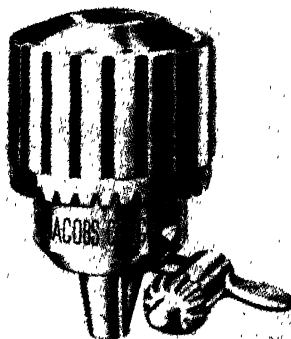

Fig. 8-6. A Jacobs drill chuck (*The Jacobs Manufacturing Company*)
The cutting tools used for any of the drill-press operations (except tapping) may be made either with straight shanks or taper shanks (Morse standard). It is usually considered best to have the smaller sizes of drills (drills under  $\frac{1}{2}$  in.) provided with straight shanks because they can be conveniently and firmly held in a chuck (Fig. 8-6), and the extra cost of the taper shank on these sizes is unnecessary. In the larger sizes, the difference in cost between straight and taper shanks is not so great, and it is nearly
**Drill Chucks** (Fig. 8-6). A chuck is a gripping device with two or more adjustable jaws set radially. A drill chuck is made especially for holding *straight-shank* drills or other cutting tools in the spindle